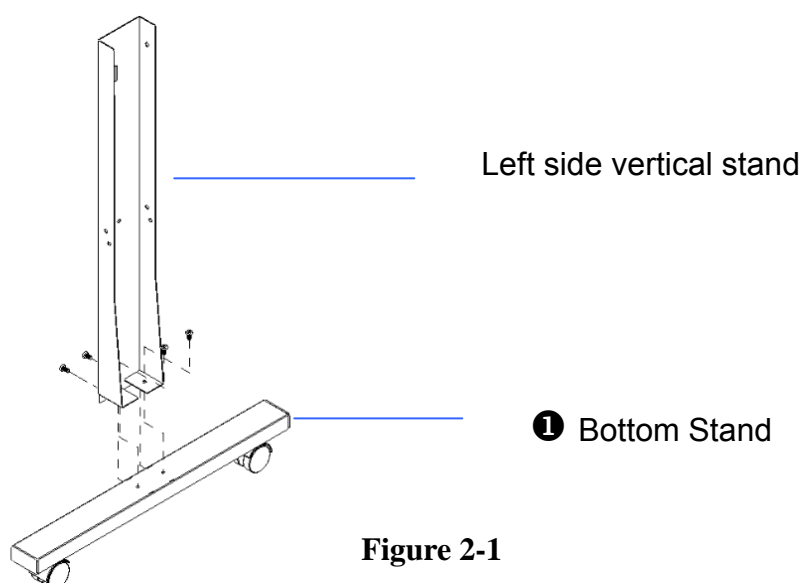

Figure 2-1
Position the Left side vertical stand perpendicularly to part ❶ and put the screws into the holes and tighten them to form a left side T-stand (Figure 2-1). Repeat the same steps with the Right side vertical stand.